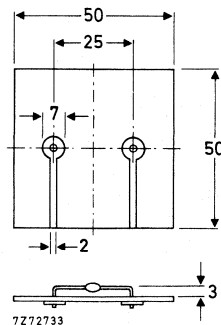

Fig. 2 Device mounted on a printed circuit board.
2. Thermal resistance from junction to ambient when mounted on a 1,5 mm thick epoxy-glass printed-circuit board; Cu-thickness $\geq 40\text{ }\mu\text{m}$; Fig. 2 (see "Thermal model")
- - - - $T =$ ambient temperature and device mounted as shown in Fig. 2.